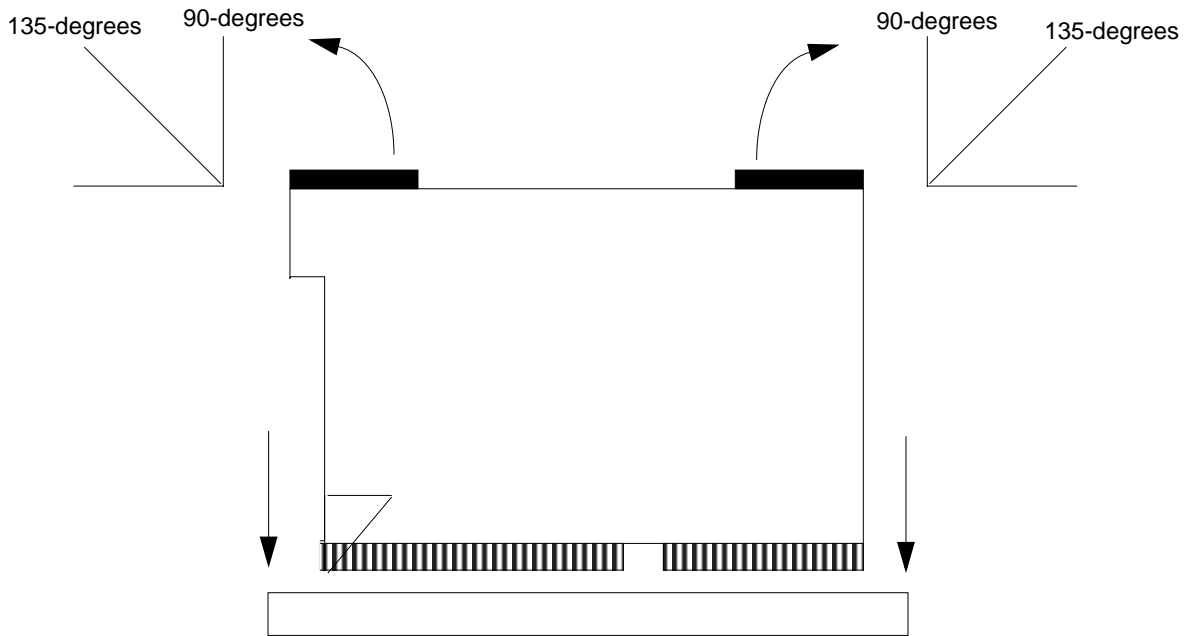

Figure 5-2 Lowering the Module Into the Chassis
4. On the antistatic surface, hold the module in an upright position so that the plastic surface faces you (Figure 5-2).
5. Move the levers on the module to the 135-degree position (Figure 5-2).
6. Lower the module along the vertical plastic guides until the module touches the slot socket on the main logic board (Figure 5-2).